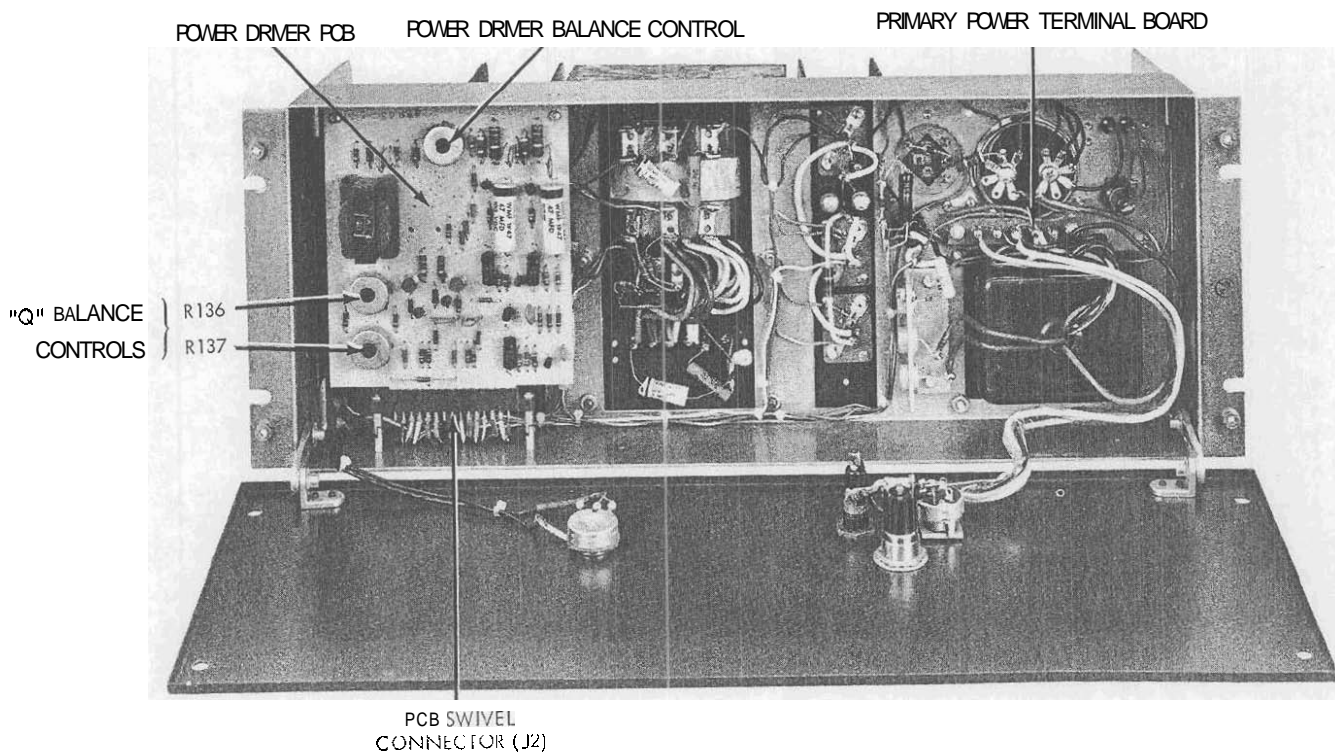

Figure 5. Front View With Hinged Panel Open
- Step 1. Remove four screws securing front panel. Open and lower panel as shown in Figure 5.
- Step 2. Locate terminal board TB3 above power transformer T1 (see Figure 5).
- Step 6. Adjust R116 on Power Driver PCB (see Figures 5 and 12) until minimum distortion is observed on distortion measuring instrument.
Output "Q" Balance Controls R136 and R137 on Power Driver PCB (see Figure 5) balance the bias current of power transistors Q1, Q2, Q3 and Q4. Inadequate adjustment of these controls may result in distortion and excessive current drain from one or more power transistors. If adjustment is indicated (such as replacement of one or more power transistors), use the following recommended procedure:
- Step 3. Turn Output "Q" Balance Controls R136 and R137 fully clockwise (see Figure 5).
- Step 1. Remove four screws securing front panel. Open and lower panel for access to PCB (see Figure 5).